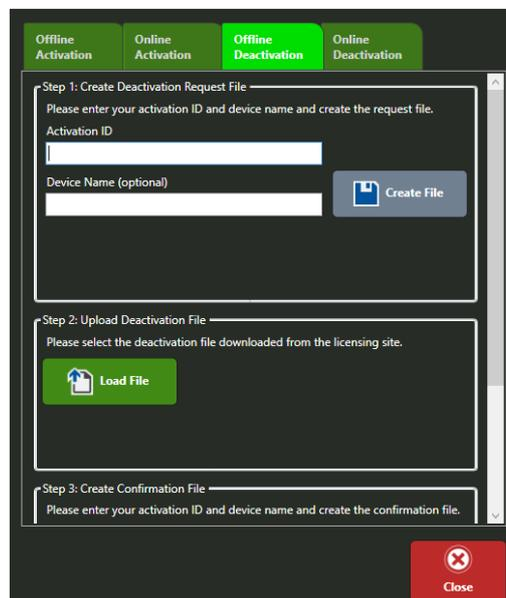

Figure 15. *Online deactivation dialog.*
1. *Select* -> **Offline Deactivation** tab (Figure 15).
4. *Select* -> **Create File**, to create the *Licence Deactivation Request* file. This will open the Create License Deactivation Request File dialog (Figure 15).